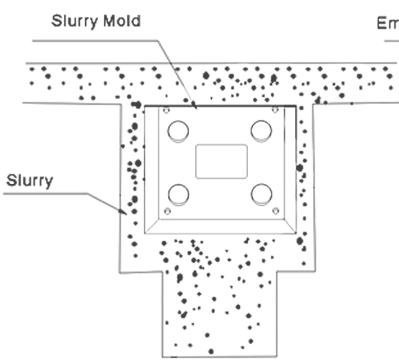

Figure 3
2. Connect to the water source and pressurize the pipeline to 0.7Mpa and check for leaks at connection points. Reinstall the mortar mould and grout any gaps between the control box and the wall and fix tiles down. Once the grout is dry, remove and dispose of the protective cover (Figures 3 and 3a).